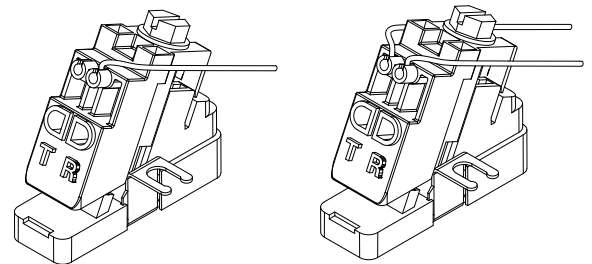

Figure 3
Upper Port Subscriber Connections (see Fig 3)
- Dress the wires through the strain relief slots to hold them in place (see Fig 3).